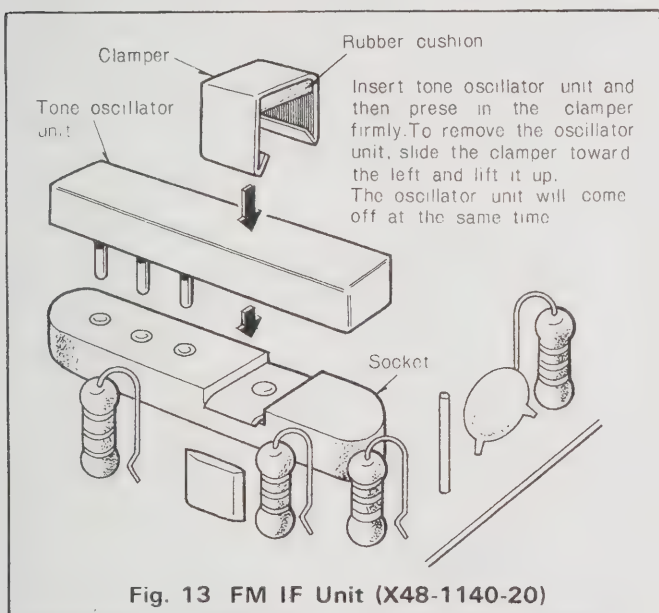

Fig. 13 FM IF Unit (X48-1140-20)
If your repeater station is such that the input frequency is 146.34 MHz (FM), output frequency is 146.94 MHz (FM) and the starting system is based on 1800 Hz tone burst signals, first insert a 1800 Hz tone oscillator element into the FM IF unit at the bottom of the chassis (see Fig. 13).